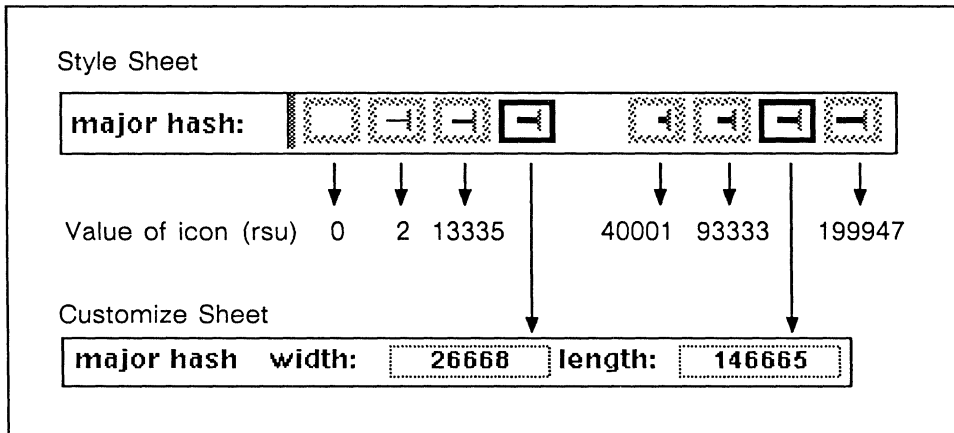

Figure 29-17. Numeric value of hash mark icons
**Major hash/minor hash.** On the Style sheet for a line or bar chart you can select four of sixteen icons to determine the length and thickness of major and minor hash marks. Each of these icons represents a rsu value on the Customize sheet. The values available on the Style sheet for minor hash are the same as those shown for major hash in Figure 29-17. To produce more varieties of hash marks, modify the numeric values for *major* and *minor hash width* and *length* on the Customize sheet.